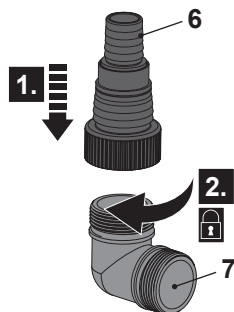

Fig. 1
1. Align and screw the hose connector (6) clockwise onto the adaptor (7) if it is not already pre-assembled (Fig. 1).